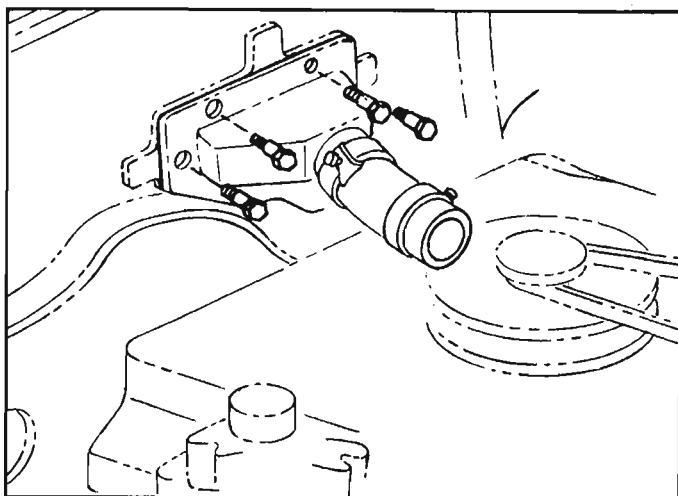

Fig. 11-38—Cold Air Inlet Assembly
2. Remove four screws (fig. 11-38) attaching the cold air inlet assembly to the fire wall within the engine compartment.